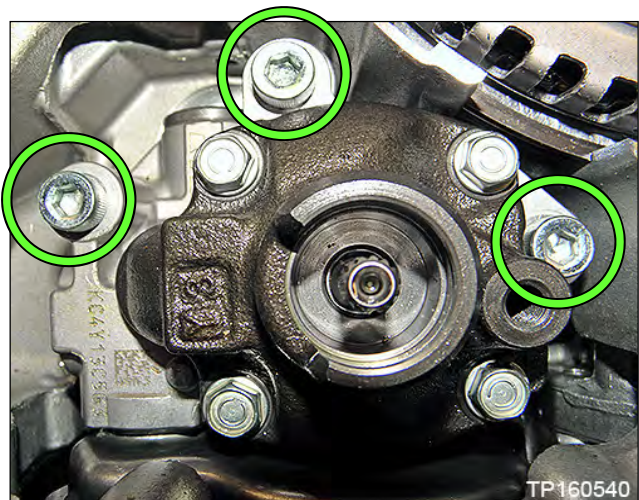

Figure 51
b. Remove the three (3) oil pump Allen®-head bolts, and remove the oil pump (Figure 51).